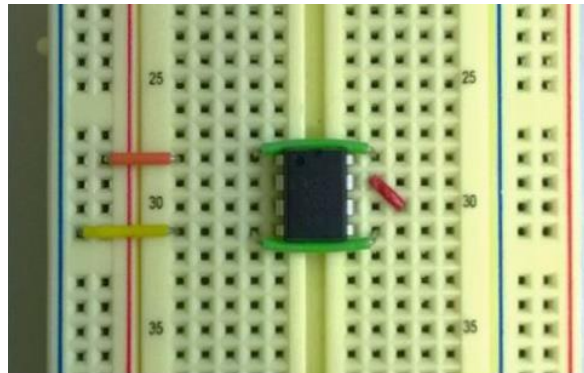

Fig. 3. Driver circuit with output pins shorted together and supply voltage connected
- Read through the datasheet of the driver to identify the pin numbers and their functions. The type of the driver circuit is MCP1407. Connect the output terminals “OUT” of the driver circuit together by a short red jumper as in Fig. 3. Otherwise the driver circuit won’t operate correctly.